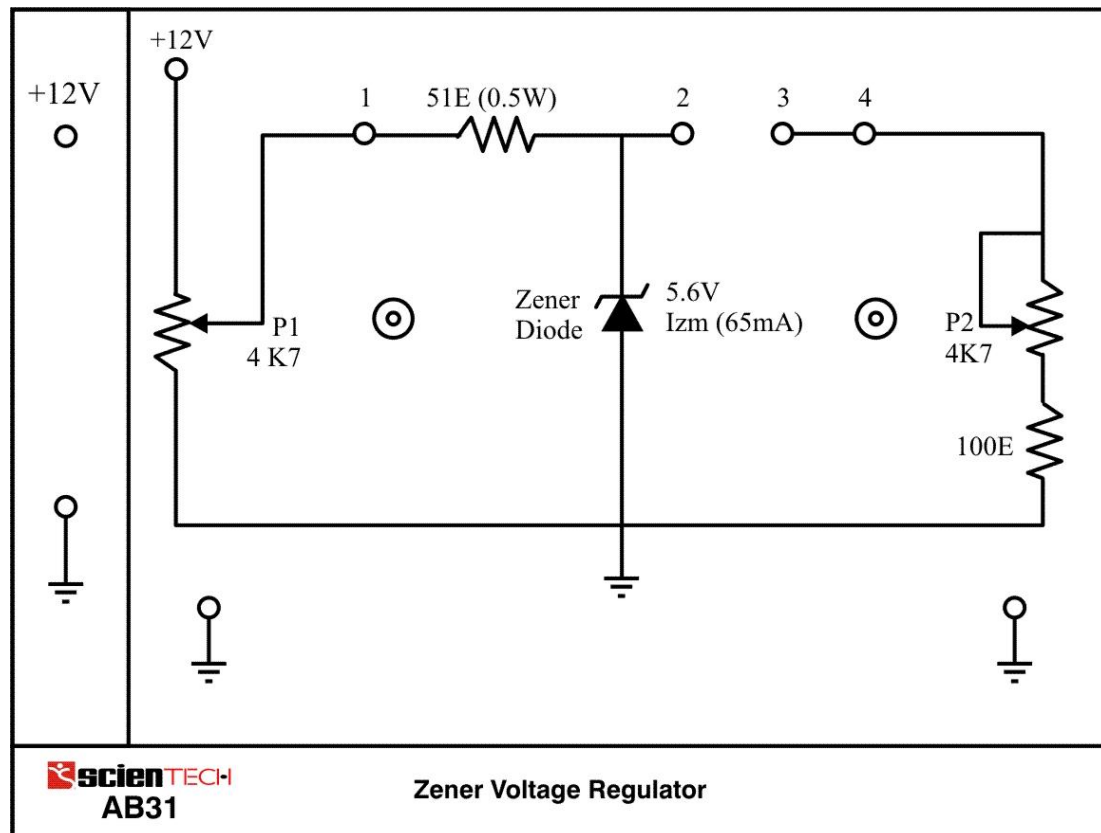

Figure 3
Circuit used to study Zener diode as a voltage regulator is shown in figure3.
2. The result of Experiment 3 reveal that for the network of figure 3 with a fixed load resistance R_L , the output voltage will remain fixed at 5.6 V for a range of input voltage that extends from to .